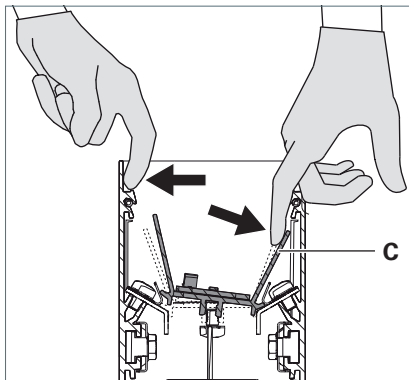

Fig. 19: Disengaging the reflector.
- ▶ Push one side wall of the luminaire outward by pushing the reflector **C** in the opposite direction at the same time, see Fig. 19.